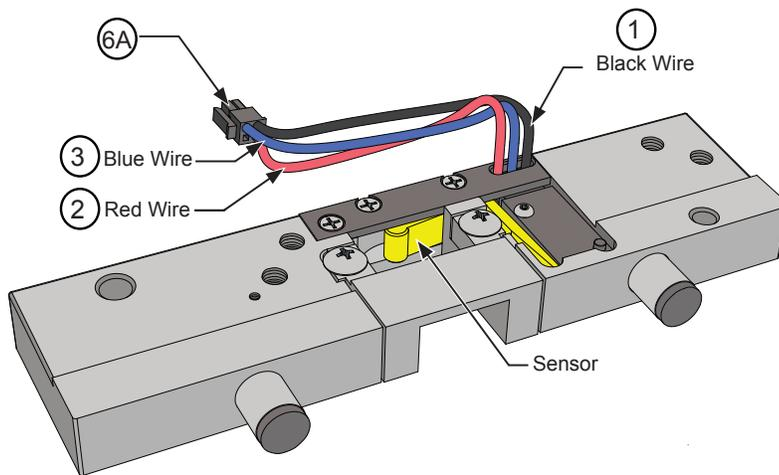

FIG. 13
1. Before installing the strike, make the necessary wire connections through the wiring cut-out. Refer to the table below in. **(Fig. 13)**
⑥A for latch/deadbolt and monitor on PKP strikes only.